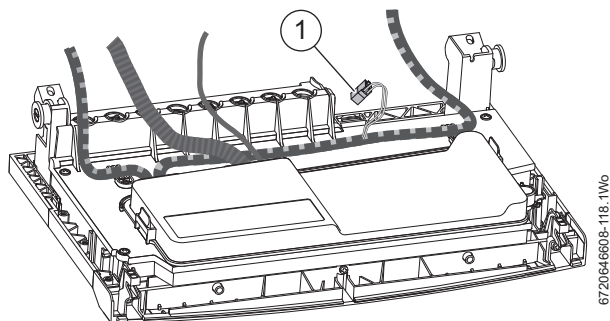

Fig. 26 Unused connector
Refer to Figure 26. The connector (1) in the wiring harness is for use on other appliances and does not provide a function on this Greenstar iSystem Compact ^{ErP}